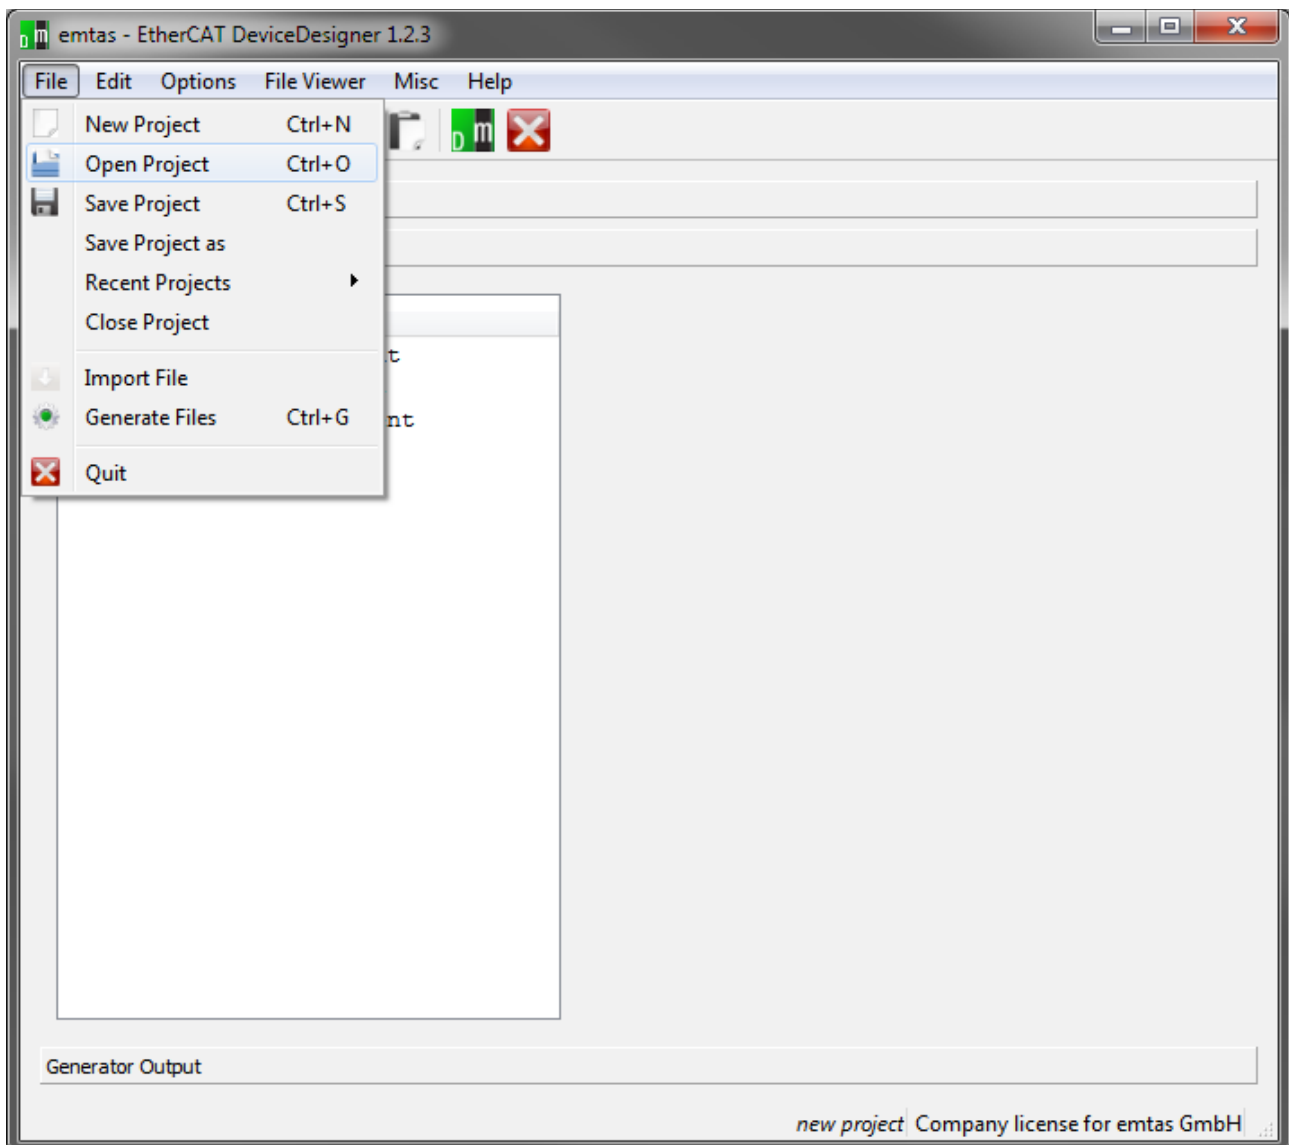

Figure 2: EtherCAT DeviceDesigner Open existing project
2. Select the downloaded SSC zip file via “Options -> Select SCC File” as shown in “Figure 2”. Just point to the .zip file.